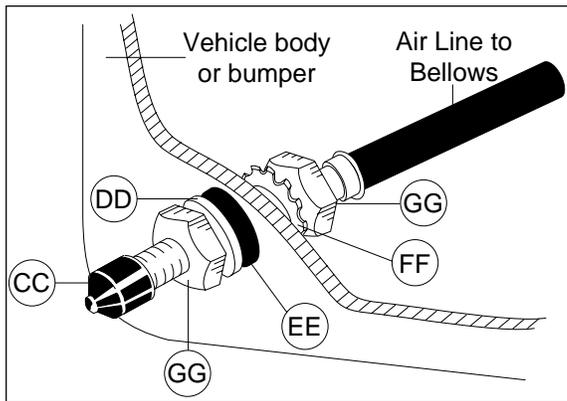
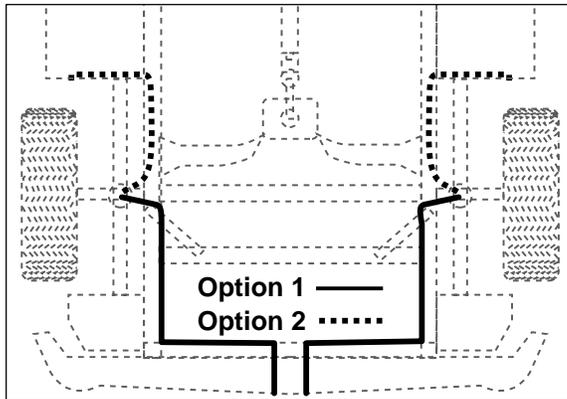

Figure 8
Figure 9
*NOTE: What ever the chosen location is, make sure there is enough clearance around the inflation valves for an air chuck (Figure 9).*
3. Cut the air line assembly (AA) in two equal lengths.
4. Place a  $\frac{5}{16}$ " nut (GG) and a star washer (FF) on the air valve. Leave enough of the inflation valve in front of the nut to extend through the hole and have room for the rubber washer (EE), flat washer (DD), and  $\frac{5}{16}$ " nut (GG) and cap (CC). There should be enough valve exposed after installation - approximately  $\frac{1}{2}$ " - to easily apply a pressure gauge or an air chuck (Figure 8).
5. Push the inflation valve through the hole and use the rubber washer (EE), flat washer (DD), and another  $\frac{5}{16}$ " nut (GG) to secure it in place. Tighten the nuts to secure the assembly in place (Figure 8).
6. Route the air line along the frame to the air fitting on the air spring (Figure 9). Keep at least 6" of clearance between the air line and heat sources, such as the exhaust pipes, muffler, or catalytic converter. Avoid sharp bends and edges. Use the plastic tie straps (BB) to secure the air line to fixed, non-moving points along the chassis. Be sure that the tie straps are tight, but do not pinch the air line. Leave at least 2" of slack to allow for any movement that might pull on the air line.
7. On the Passenger side only, place the provided thermal sleeve (T) on the air line near the exhaust.